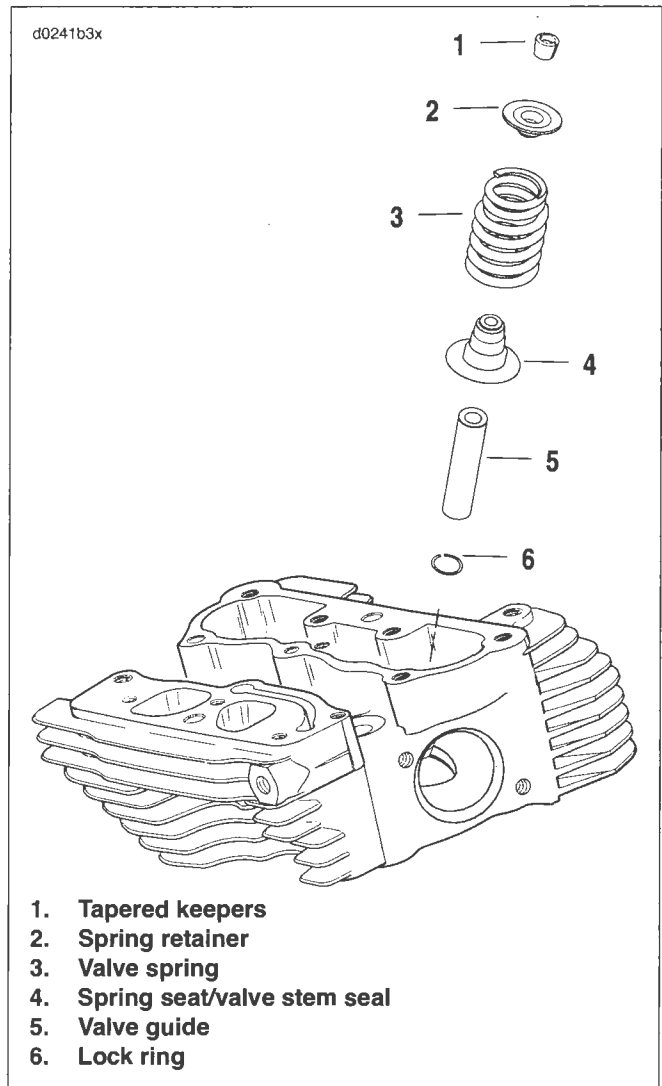

Figure 3-112. Valve Assembly
11. See Figure 3-112. Apply a liberal amount of assembly lube to valve stem tip and keeper groove (1).
12. With the smaller diameter coils topside, install the valve spring (3) over the valve guide (5). Place the spring retainer (2) on top of the valve spring.